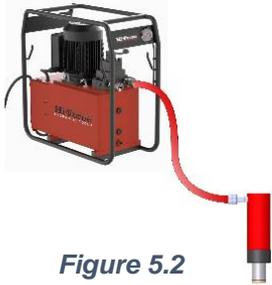

Figure 5.2
IMPORTANT: Make sure that all coupler threads are fully engaged. (See figure 5.2, panel 3)
- With all hydraulic connections made, position the cylinder/s below the level of the hydraulic pump, as illustrated in figure 5.2.